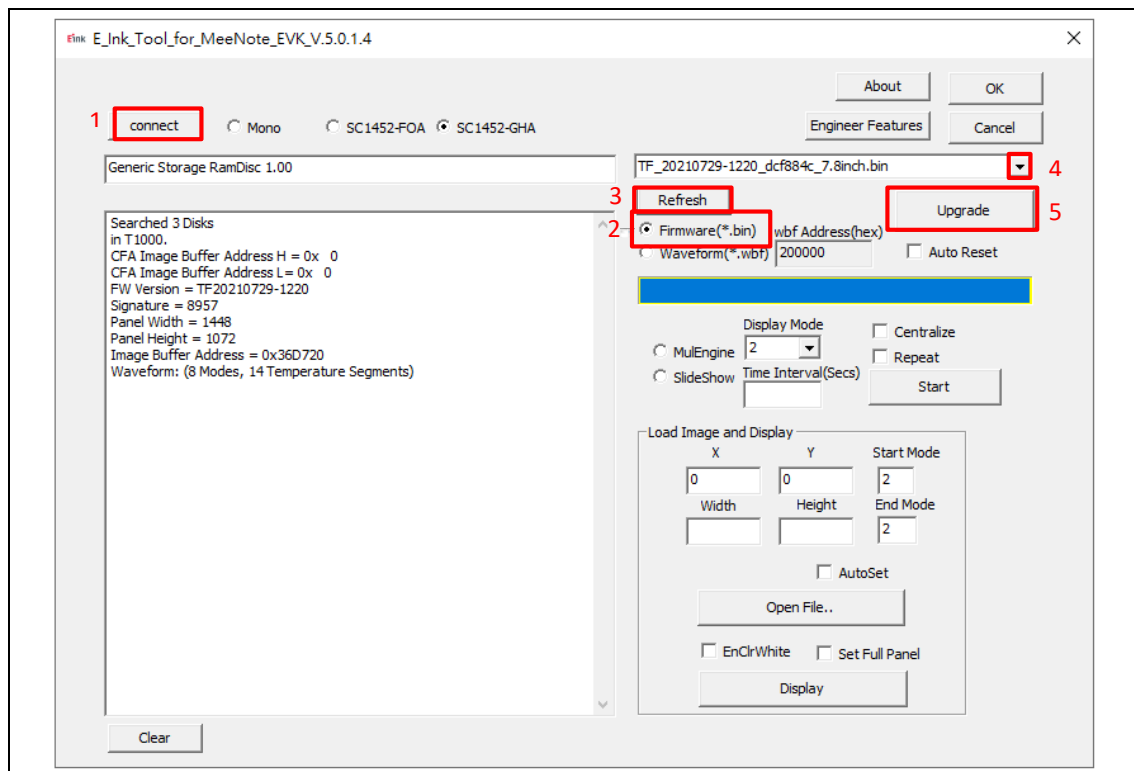

Figure 3.5
(2) How to upgrade firmware
- Execute E_Ink_Tool_for_MeeNote_EVK_V5.0.1.4.exe (refer to Figure 3.5)